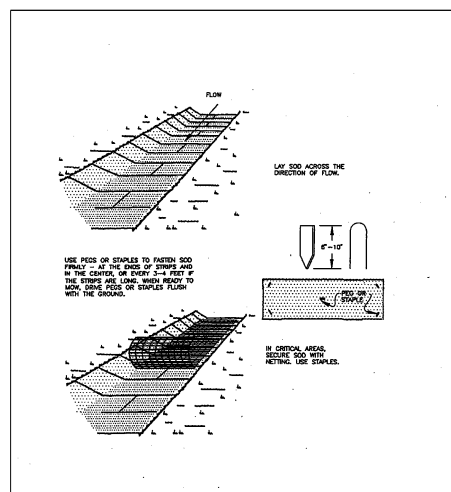

Figure 7.6b. Sodding Swales and Waterways
- Irrigate areas to be sodded with a minimum of 1/2 inch (13 mm) of water, unless recent rains have provided an equivalent amount of moisture (see Figure 7.6b).